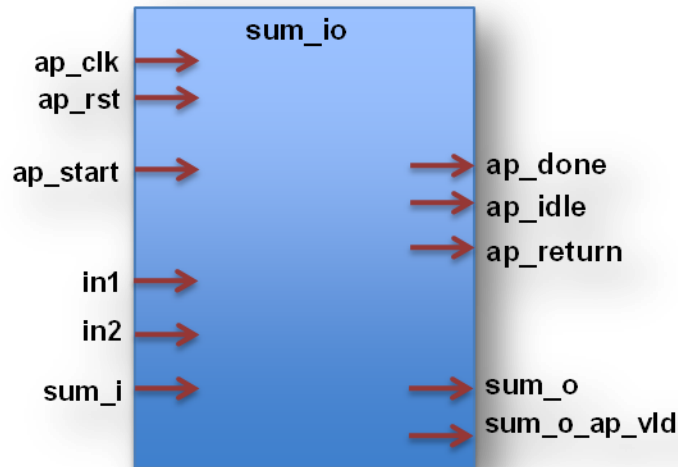

Figure 1 RTL Ports after Default Interface Synthesis
By default, the design will be synthesized into an RTL block with the ports shown in Figure 1.
- Function arguments which are both read from and written to, are synthesized as separate input and output ports (`sum_i` and `sum_o` in Figure 1).